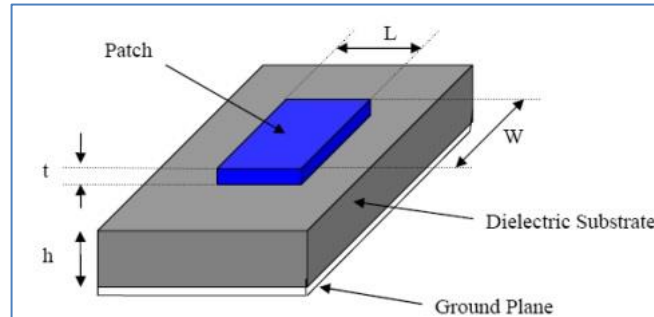

Figure 11.3: Square patch antenna
3. Design a microstrip patch antenna for a frequency of 2.4 GHz with a square patch shown in the figure 11.3 on a substrate material. Calculate the dimensions of the patch and the feed line.